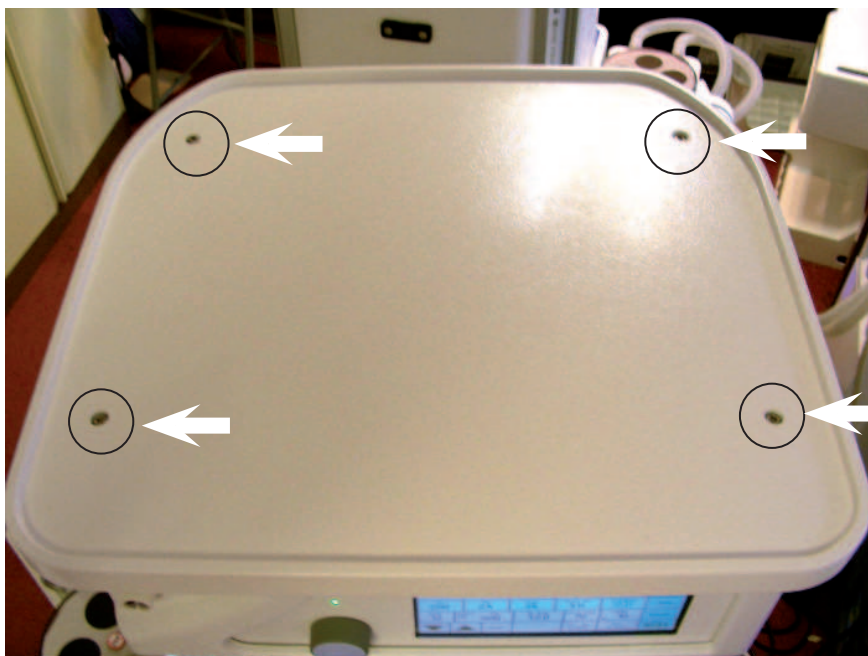

Figure 45 - Removal of Top Surface
1. Remove the 4 screws shown in Figure 45 and lift the top cover off.